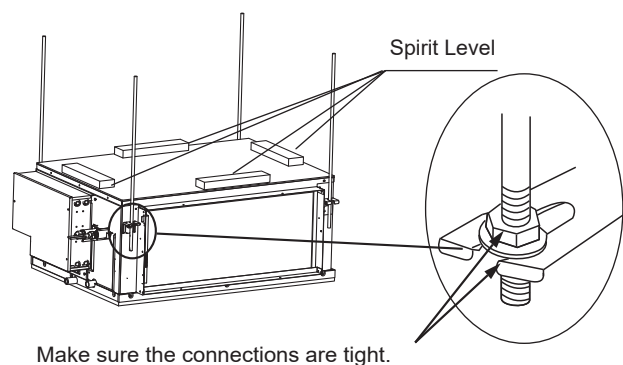

Figure 10. Newly set concrete slab structure
- Use a spirit level to verify that the unit body is level (making the unit body slope downwards towards the drainage side), as shown in Figure 10.